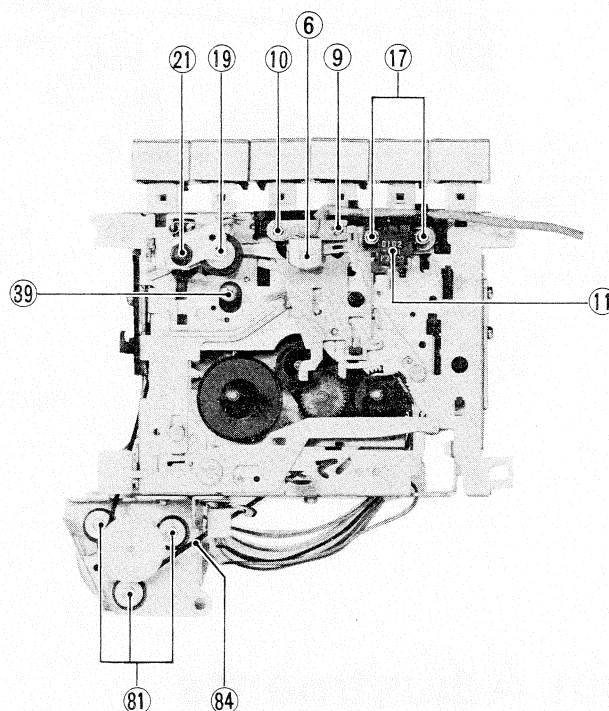

Fig. 10
Removing R/P head ⑥ (Fig. 10)
2. Unscrew screws ⑨ and ⑩ to remove the R/P head.
Removing erase head ⑪ (Fig. 10)
1. Unscrew two screws ⑬ to remove the erase head.
Removing pinch roller Ass'y ⑲ (Fig. 10)
1. Pull out stopper ⑳, then remove the pinch roller Ass'y together with the pinch roller spring.
Removing motor Ass'y ⑧⑤ (Fig. 10 and 11)
1. Disengage main belt ⑧④.
2. Remove three screws ⑧①.
Removing flywheel Ass'y ③⑦ (Fig. 10 and 11)
1. Unscrew screws ④② and ⑪⑧, then remove flywheel bracket ④①.
2. Disengage main belt ⑧④.
3. Pull out washers ③⑨, taking care not to lose them.